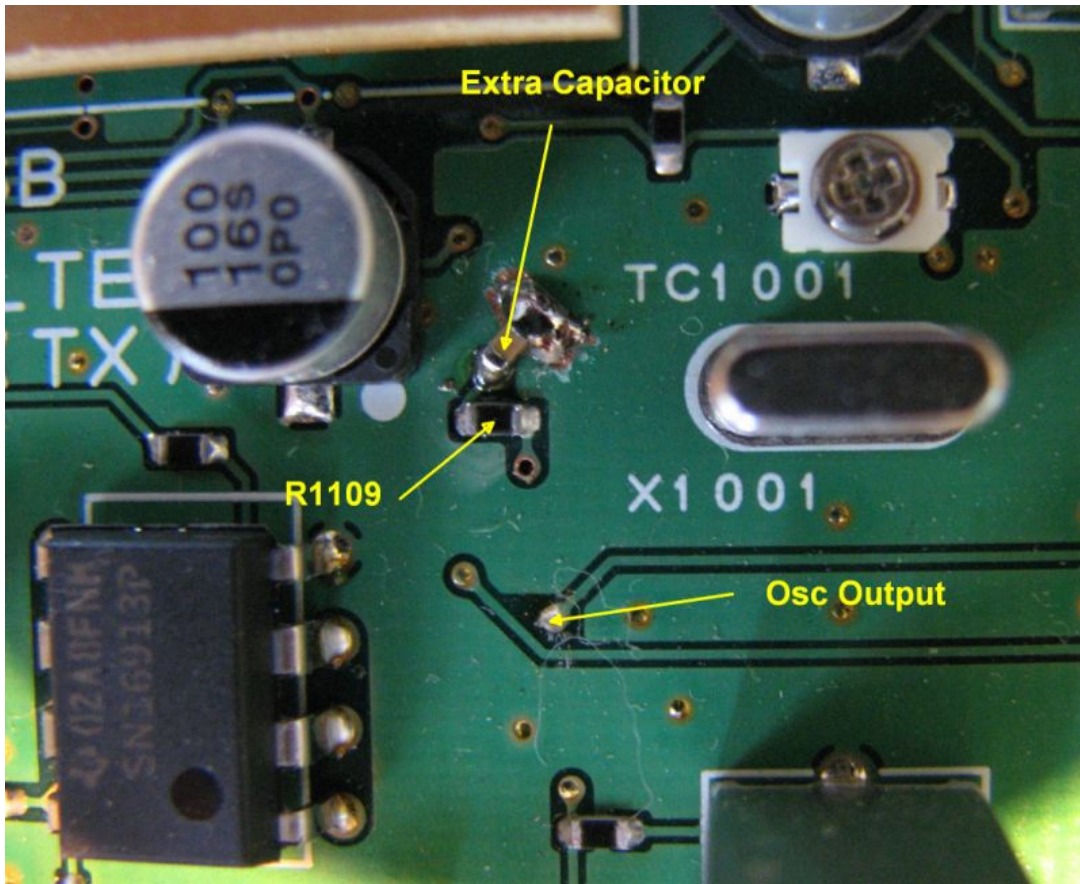

Figure 2 – Reference Oscillator Component Layout
The internal view of the upper side of the PCB is shown in Figure 2.
4. Remove R1109 from the board (see Figure 2), preferably in one piece, because it will be re-used. This is probably the hardest step. The way I did it was to use two fine-point soldering irons to heat each end of the component simultaneously and lift it away. Another way is to carefully just snip the component in half, desolder each piece, and use a replacement 2.2K resistor.